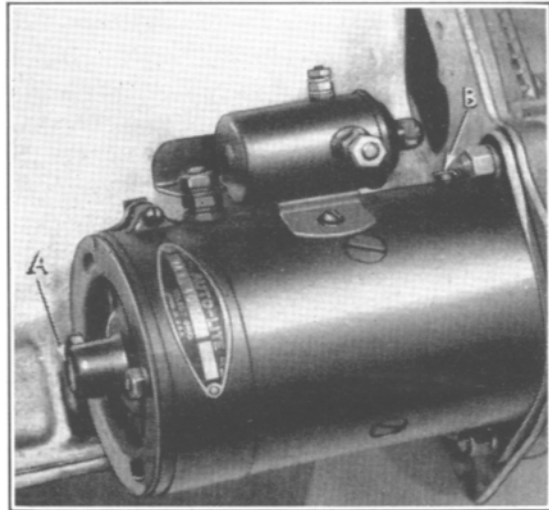

Figure 25
The starting motor, Fig. 25, is located at the rear left corner of the engine and is fitted with a separate solenoid switch. Control of the starting motor is by means of a push button located on the instrument panel to the right of the ignition lock.
LUBRICATION—Two small oilers are provided for lubrication of the bearings. Every 2,000 miles the two oilers, (A) and (B), see Fig. 25, should be lubricated with a few drops of light engine oil. *Do this sparingly to prevent over-oiling.*